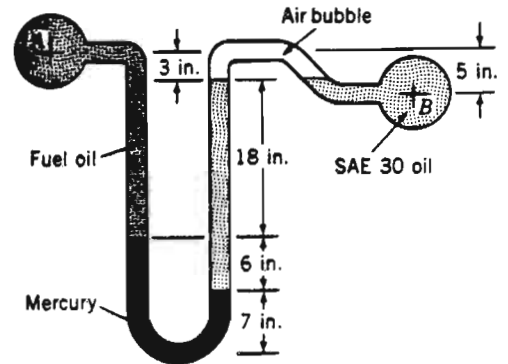

FIGURE P2.38
**2.38** A mercury manometer is used to measure the pressure difference in the two pipelines of Fig. P2.38. Fuel oil (specific weight = 53.0 lb/ft3) is flowing in *A* and SAE 30 lube oil (specific weight = 57.0 lb/ft3) is flowing in *B*. An air pocket has become entrapped in the lube oil as indicated. Determine the pressure in pipe *B* if the pressure in *A* is 15.3 psi.